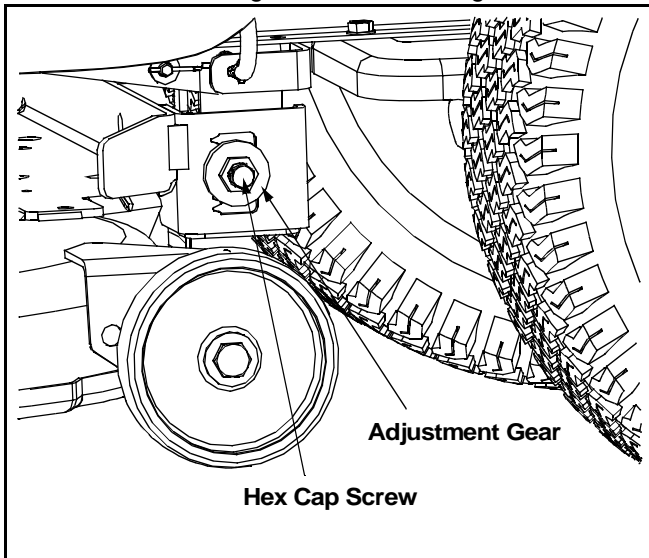

Figure 15
- Loosen, but do NOT remove, the hex cap screw on the left deck hanger bracket. See Figure 15.